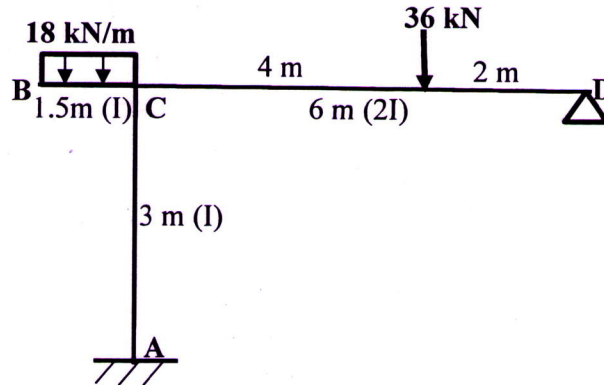

Figure 5
- 15 **Figure 5** shows a loaded frame. Analyse using 'Slope Deflection Method', determine the end moments and draw the BMD. 14